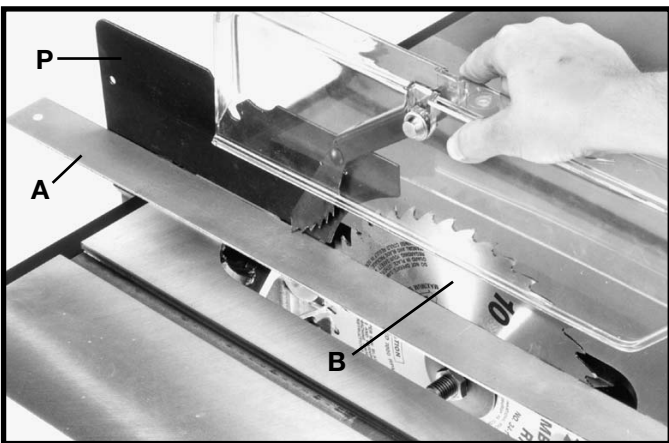
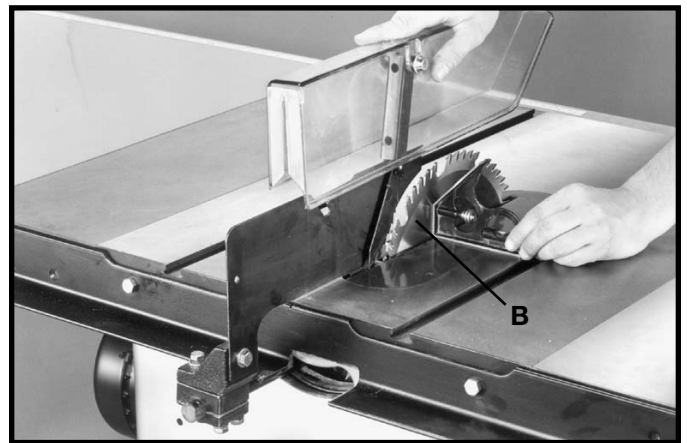
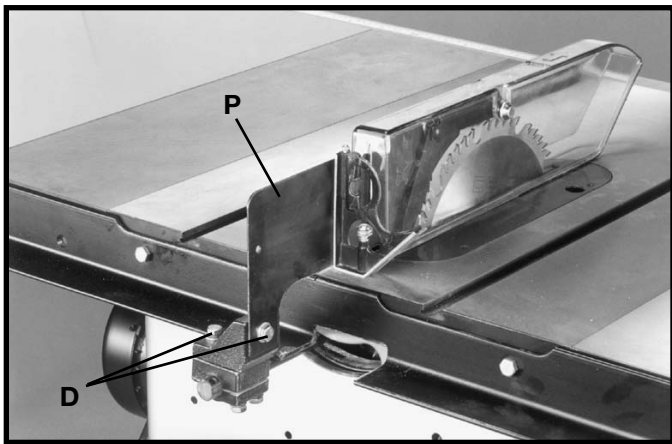

Fig. 35
Fig. 36
Fig. 37
12. Using a straight edge (A) Fig. 35, make certain the saw blade (B) is aligned with the splitter (P). Using a square (C) Figs. 36 and 37, make certain saw blade (B) Fig. 36, and splitter (P) Fig. 37, are 90 degrees to the table surface. Once you are certain the splitter is aligned to the saw blade and table, tighten all splitter mounting hardware (D) Fig. 37 and recheck alignment.